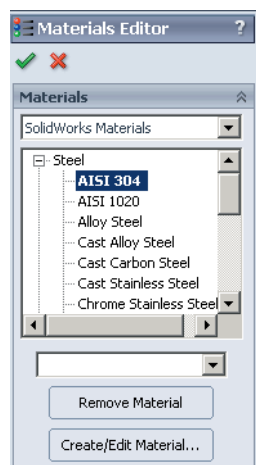

Fig. 39
Step 2. Expand Steel, select **Steel AISI 304** and click OK , **Fig. 39**.